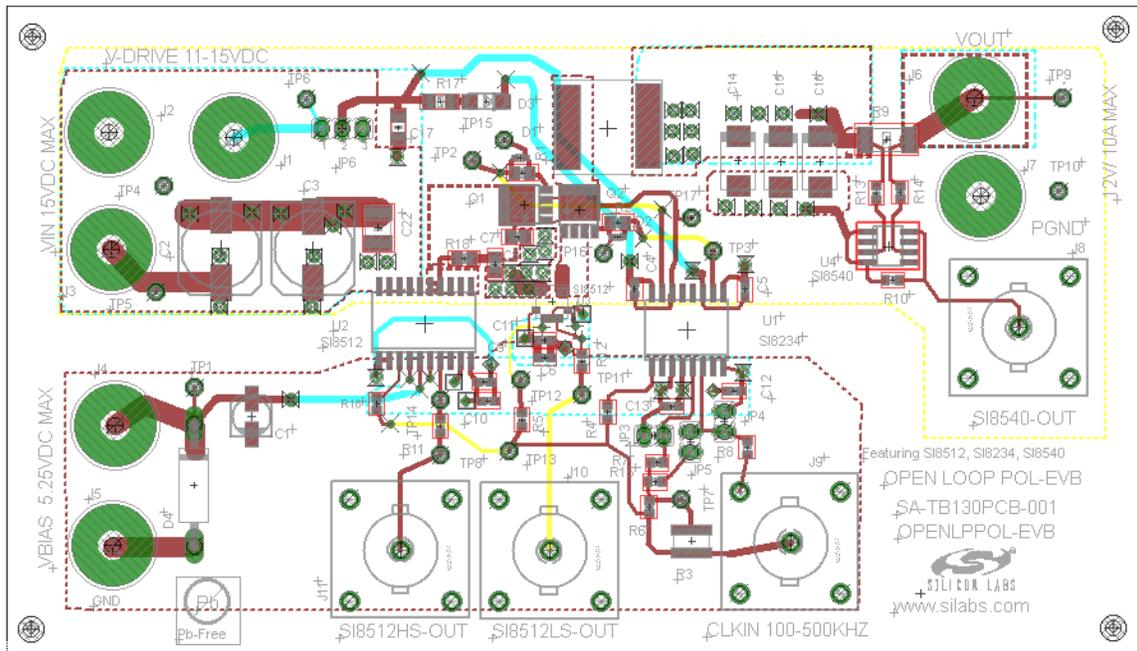

Figure 6. Open Loop POL Evaluation Board Silkscreen
The Open Loop POL evaluation board has an Si8234, two Si8512s (both the QFN and SOIC packages) and a Si8540 installed. There are two Si8412s (QFN and SOIC packages) installed to allow users to evaluate either package. Refer to Figure 6 for the locations of the various I/O connectors and major components.
- Removed Figure 6, "Open Loop POL Evaluation Board Schematic (Sense)".